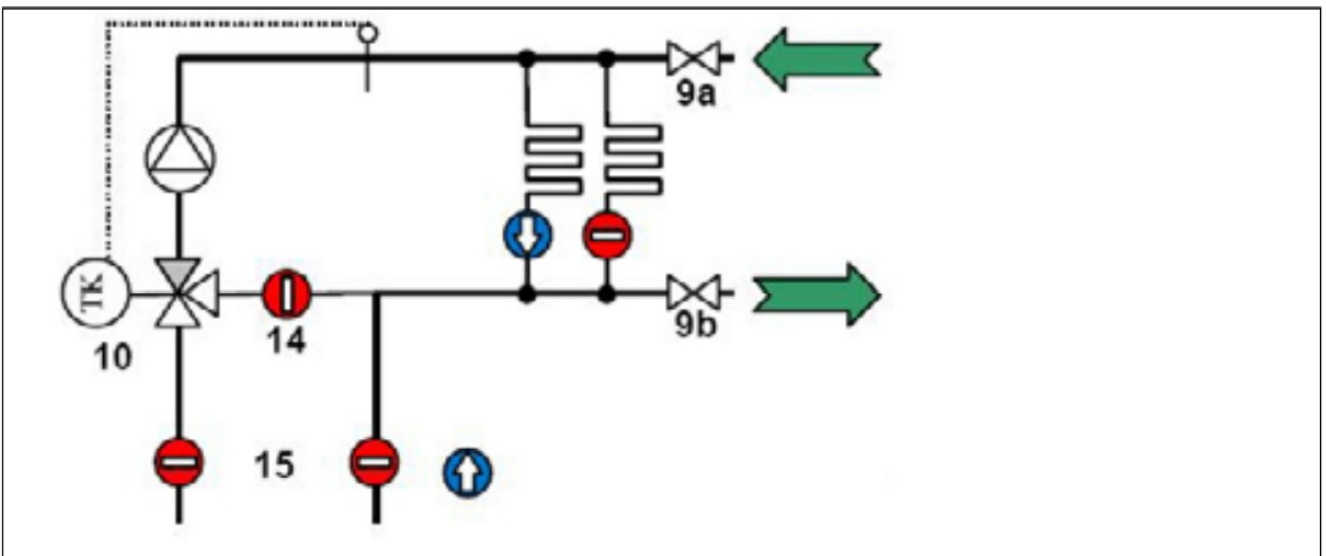

Fig. 8-4
7. To fill and flush the heating circuits, connect the filling hose to the supply fill and drain valve (9a, Fig. 8-4) and the emptying hose to the return fill and drain valve (9, Fig. 8-4).